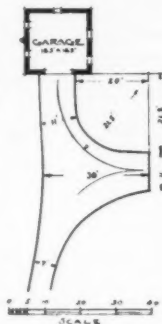
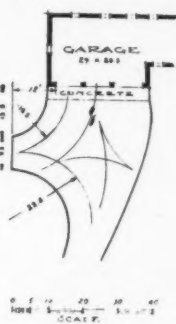

FIGURE 8
FIGURE 10
Photo. 1.—The normal problem with a small garage and limited lot. See photo. 2 and Fig. 8.
Photo. 2.—Showing the general relationship of the house to the garage on a small lot. See photo. 1 and Fig. 8.
Under the first are Figures 8, 9 and 10, showing the simplest form for one and three car garages.
It may be well to state here that the position of the large and small cars in the berths may enable one to reduce area in the turn. In Figure 10 the large car would best be in the right-hand berth, the small car in the middle berth and the electric runabout in the left-hand berth. If the large car is to be kept in the left berth, dimensions of the "Y" must equal those shown in Figure 8.
4. The minimum measurement across a "Y" turn, parallel with the front of the garage, from one side to the end of the "Y" for a car of long wheel base, should be approximately 30 ft., and for cars of shorter wheel base should be approximately 25 ft. (See Figs. 8 and 9.)